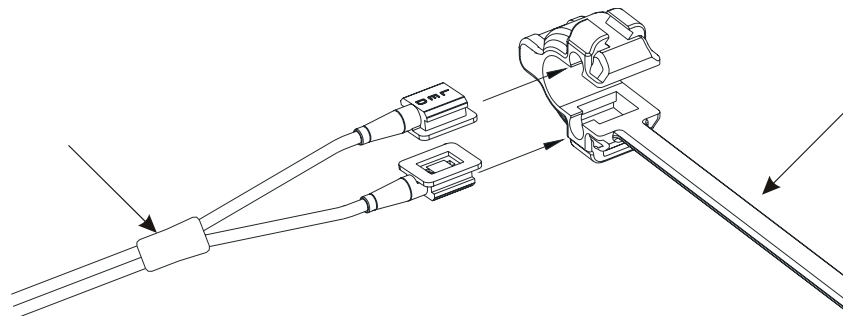
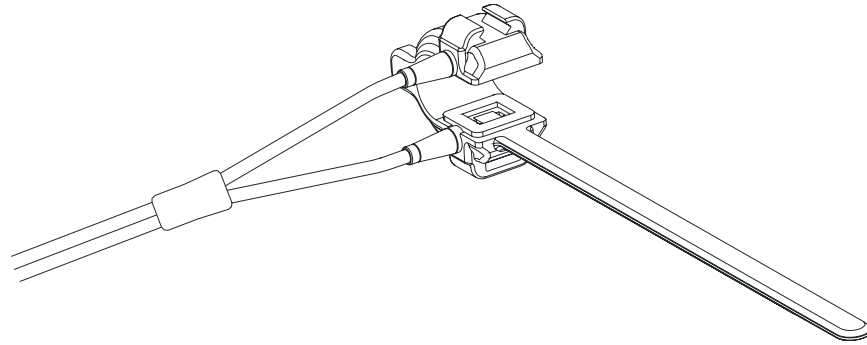

FIGURE 6-4 Inserting the Y SpO₂ sensor into the sheath
FIGURE 6-5 The Y SpO₂ sensor inserted in the sheath
1. Insert the LED and pulse detector ends of the Y SpO₂ sensor into the respective grooves of the sheath (see FIGURE 6-4 and FIGURE 6-5).